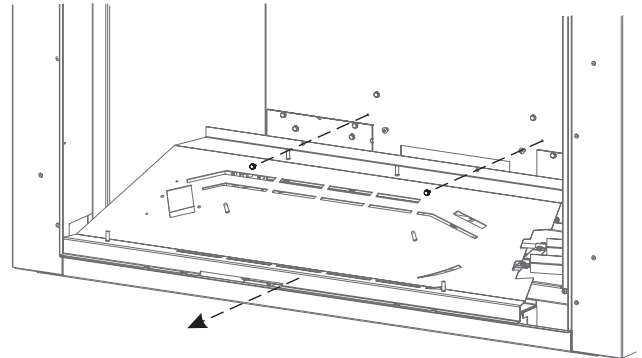

Figure 4
5. Remove (2) screws holding burner base in place. Lift burner base out of firebox. (Figure 4)